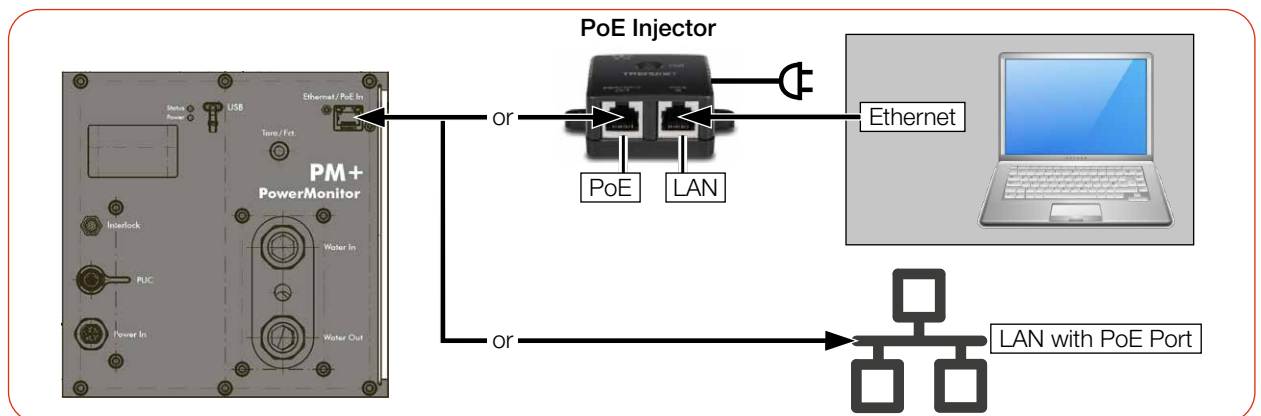

Fig. 7.5: Power supply and data transfer via PoE In
- ▶ Connect the cables according to Fig. 7.5 on page 29.